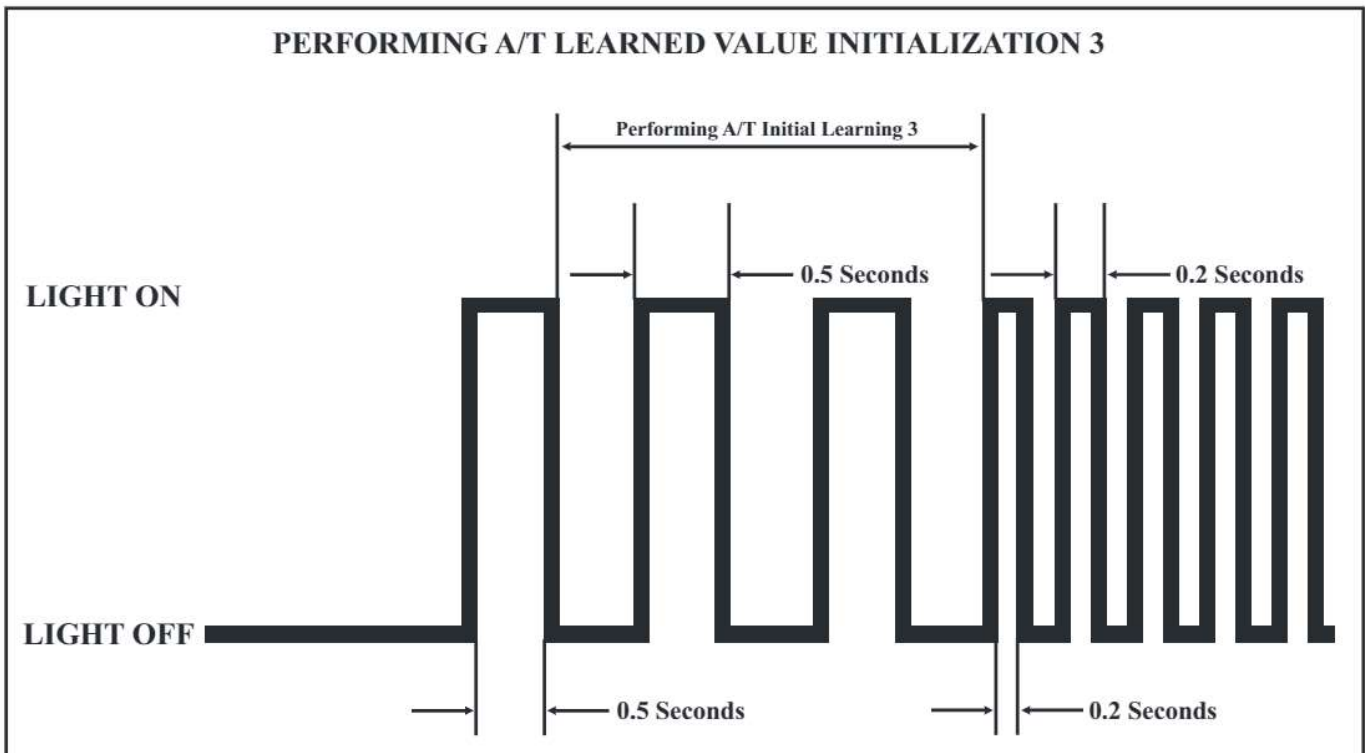

Figure 90
- 5 - Check to see that the flashing interval of the A/T oil temperature warning lamp changes from 0.5 second to 0.2 second intervals as seen in Figure 90.